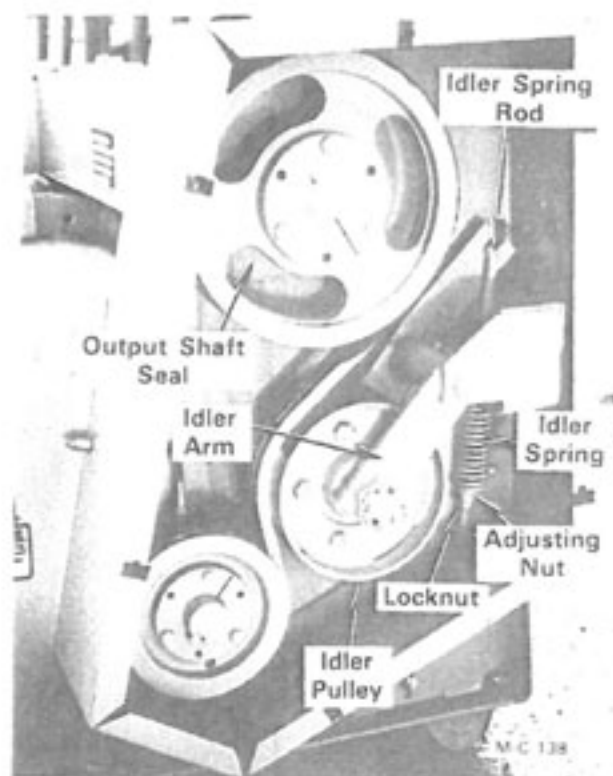

Figure 21
3. If not, loosen the locknut and tighten the idler spring adjusting nut, see Figure 21,
3. Loosen the idler spring rod locknut and back off the idler spring adjustment nut to relieve all spring tension. Remove the idler spring rod and spring, see Figure 21.
- B. Remove the two capscrews securing the output shaft seal, see Figure 21 and 22.